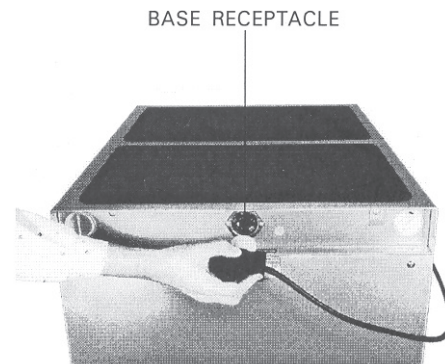

FIG. 1
**HOW TO INSTALL UNIT: (Figure 1)**